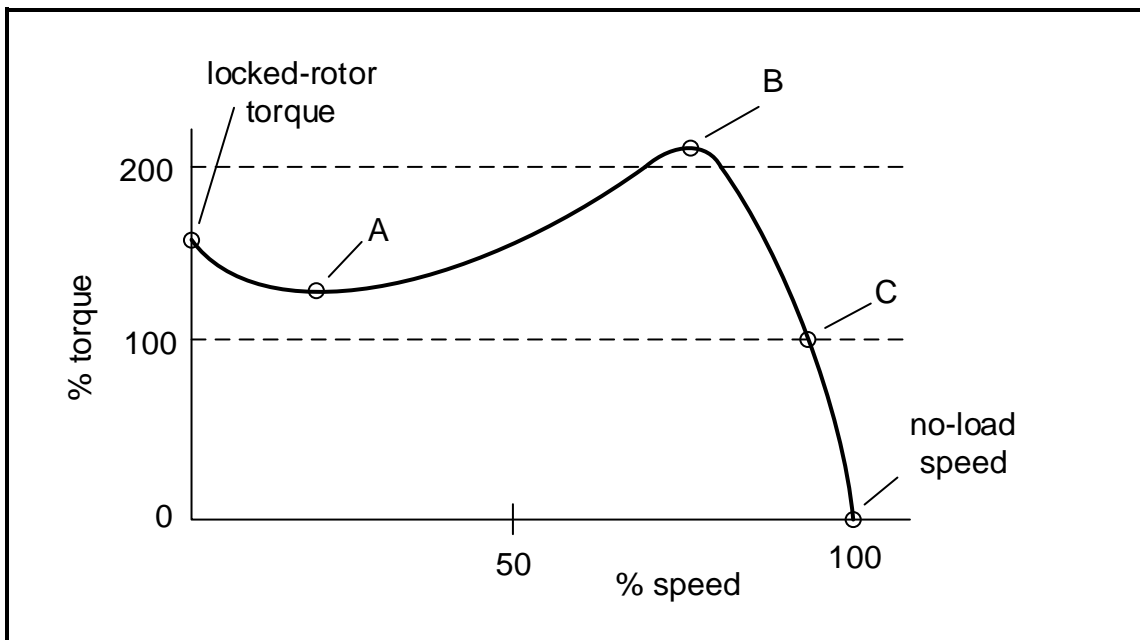

FIGURE 6.5: SPEED VS TORQUE CHARACTERISTIC CURVE
- 6.5 Label points **A**, **B** and **C** on the characteristic curve in FIGURE 6.5 below. (3)